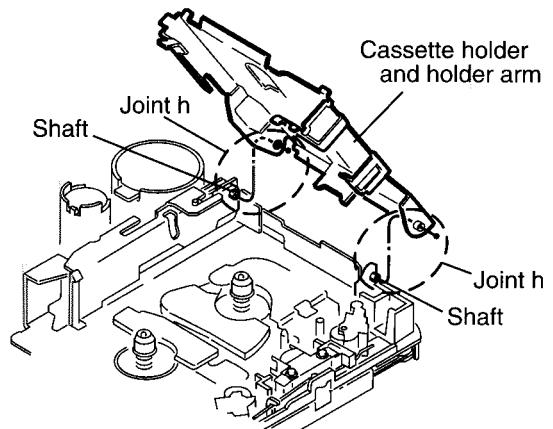

Fig.8
**■ Removing the Cassette mechanism assembly** (See Fig.8)